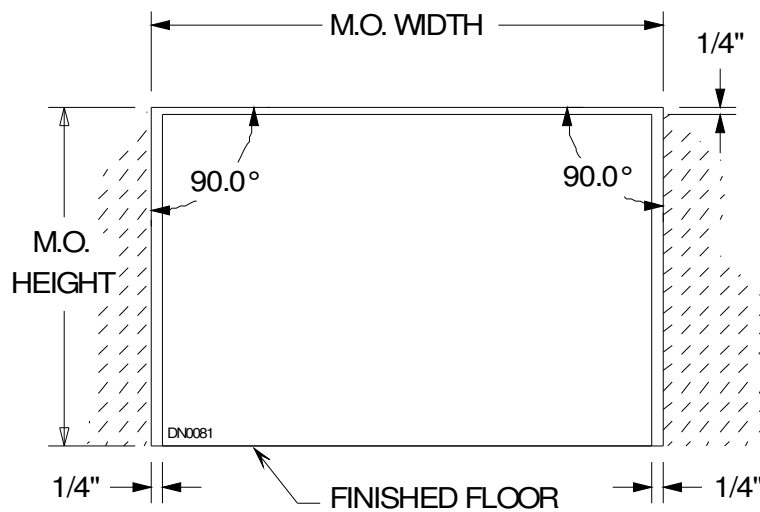

Figure 2
A. Masonry Opening (MO) Preparation
3. MO width should be package width plus 1/4 inch per side. (See Figure 2).